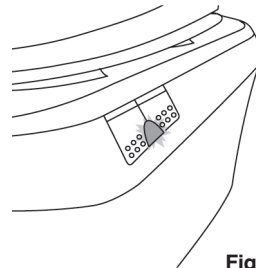

Fig. 4
- The appliance will be ready for use when the pressure indicator LED (E) lights up (Fig. 4). While ironing, this LED (E) goes on and off automatically, this is normal.